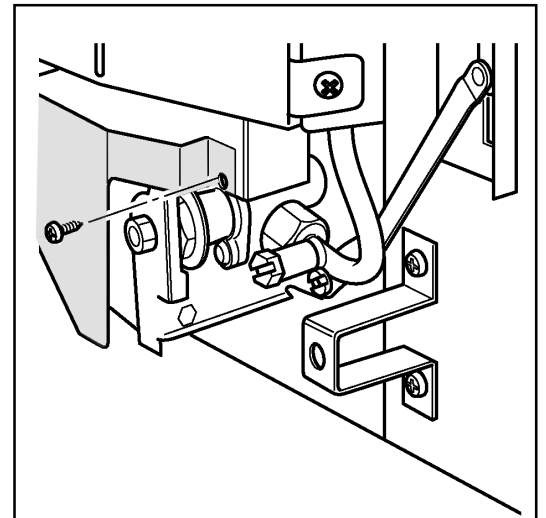

Figure 38. Microswitch cover removal
See figures 38 & 39.
- Detach the microswitch cover by removing one screw and pulling clear of the location lug. See figure 38.
See figures 38, 39 & 40.